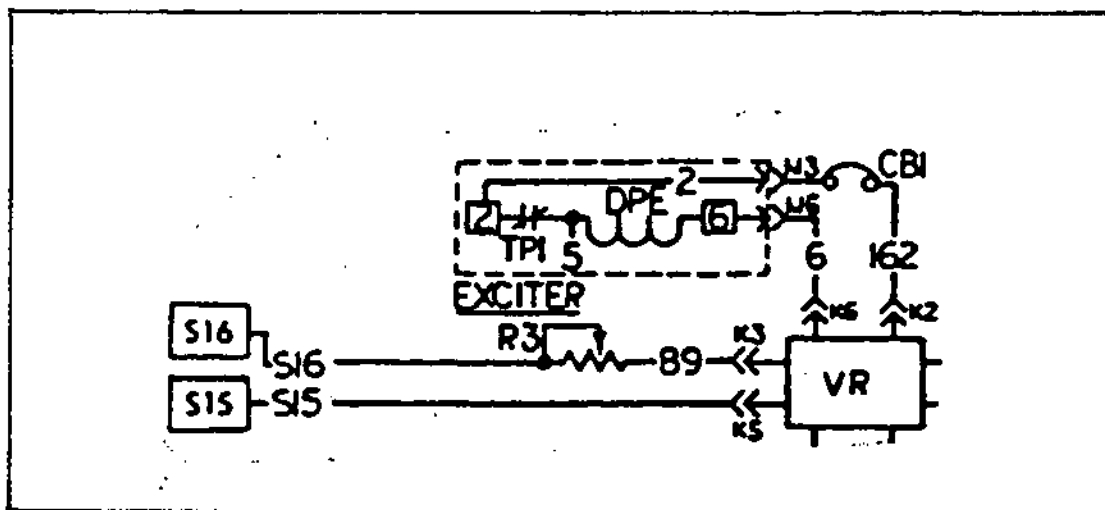

Figure 6.2-C. Voltage Regulator, Sensing and DPE Circuits
6.2.12- CHECK DPE OUTPUT (Figure 6.2-C)
6.2.13- CHECK VOLTAGE ADJUST POTENTIOMETER (Figure 6.2-C)
6.2.14- CHECK SENSING LEADS (Figure 6.2-C)